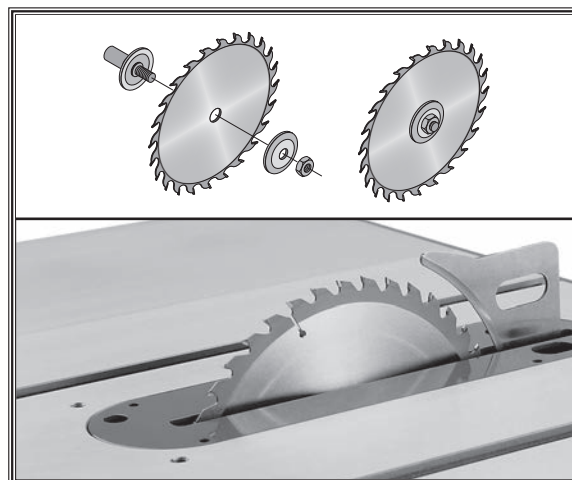

Figure 36. Order of blade component installation and teeth facing to the front.
4. Slide the blade over the arbor with the teeth facing the front of the saw, as shown in **Figure 36**.